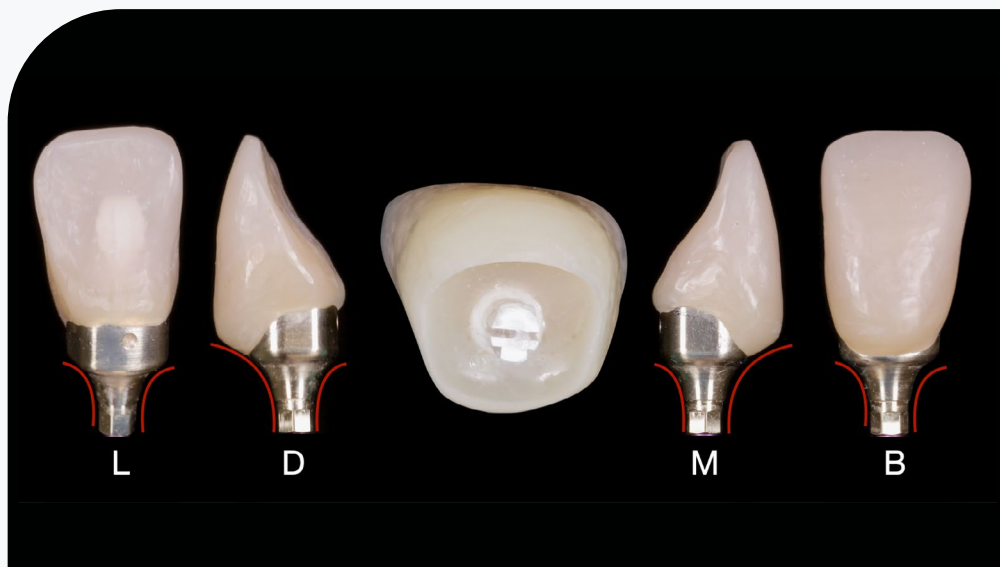

**FIG. 10** Cuttable plastic pin with short screw for provisional restoration over iPhysio®.
- The provisional pin with a short screw is a great option for fixing a temporary crown onto the iPhysio® (Fig. 10). It's easy to use, and similar